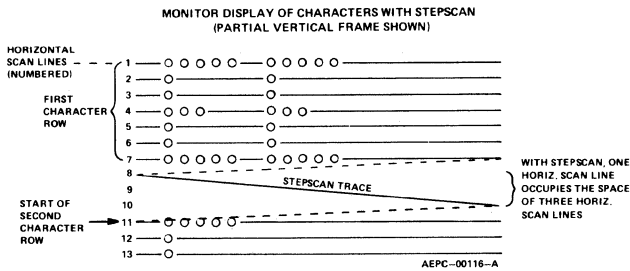

Figure 17. Displaying Characters on a Monitor with StepScan
STEPSCAN FUNCTION (Reference Figure 17)
StepScan is useful when it is desired to display more rows of data characters than the existing "alphanumeric video" signal format will permit. A typical display consists of 240 horizontal scan lines which form character rows of data. Between each character row is a desired amount of blank spacing which is made up of horizontal scan lines without video information. By accelerating the vertical deflection between character rows, one (1) horizontal scan line could provide the spacing between rows that would normally be occupied by three (3) horizontal scan lines (see Figure 17). This would reduce the number of blank horizontal scan lines between character rows from three (3) down to one (1). However, the physical spacing between the character rows would not change. Since two (2) horizontal lines are saved between each row, a 24 row format will accumulate 48 unused scan lines. These 48 extra scan lines will reside at the bottom of the display since the CRT still scans a total of 240 horizontal lines. Therefore, the 48 additional lines at the bottom can also be used to display data. This means an additional six (6) rows of characters can be displayed. (For example, 7 lines for char. height plus 1 line for spacing = 8 lines per char. block. 48 unused lines divided by 8 char. block lines = 6 additional rows.)